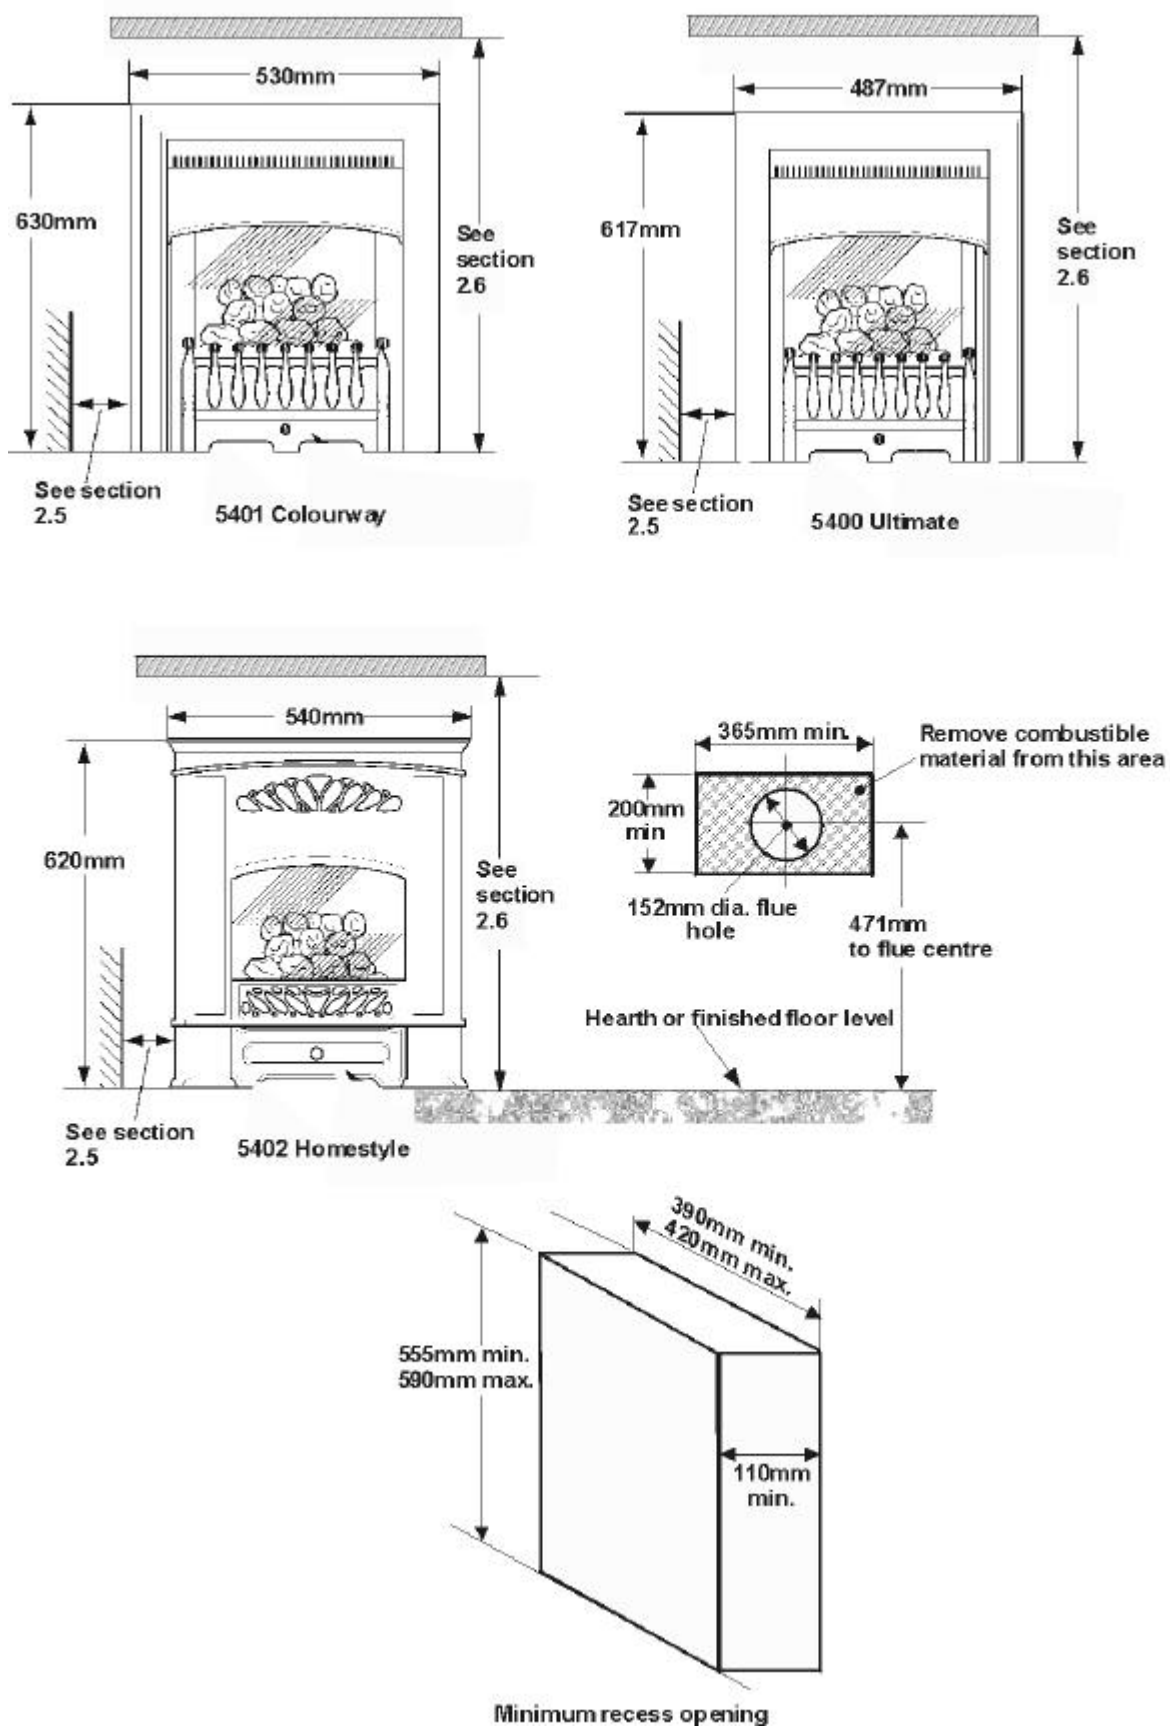

Figure 1
- c) Recessed into a builder's opening or cavity of a non-combustible wall. The minimum cavity size is shown in figure 1. A lintel may be required above the recess opening. If in doubt seek expert building advice. Lintel construction details are given in section 5 of this guide. ***This appliance must not be recessed into a combustible wall***
The height of the hole centre is shown in figure 1 and on the wall-fixing template supplied with the appliance.